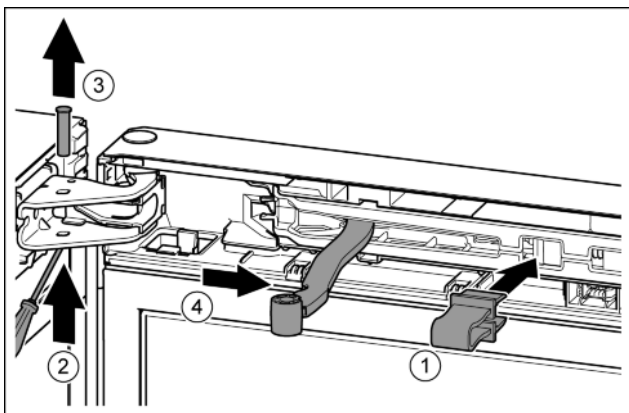

Fig. 10
- Engage the locking device in the opening. Fig. 10 (1)
- Unscrew the bolt with a screwdriver. Fig. 10 (2)
- Remove the bolt in an upward direction. Fig. 10 (3)
- Turn the hinge in the direction of the door. Fig. 10 (4)